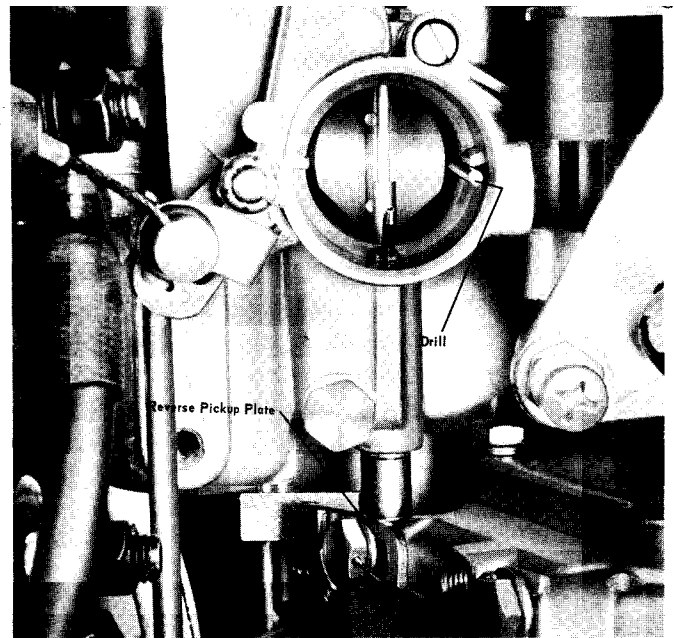

Figure 5. Reverse Pickup Bracket Adjustment
3. Insert No. 40 size drill, or equivalent, 3" into top carburetor throttle shutter opening. (Figure 5) Drill must be in vertical center on port side of throttle shutter between shutter and carburetor body. (Figure 5)
5. Adjust carburetor shaft reverse pickup bracket until it just touches reverse throttle pickup lever. (Figure 5)